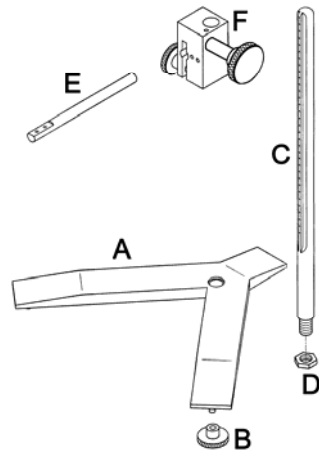

Fig. 6 Set-up for the viscometer base
- Remove all of the parts from the carry-case. Note the figure below (fig 6).
- Correctly place the three height adjustable knobs (B) on the Y-shaped base (A).
- Mount the fastening rod (C) with the holding screw (D) at the base (A).
- Attach the nut (F) to the fastening rod. The viscometer should be connected to the nut (F) by means of its rod (E).
- Insert the horizontal rod of the viscometer (E) into the nut (F). Fig. 6 Set-up for the viscometer base